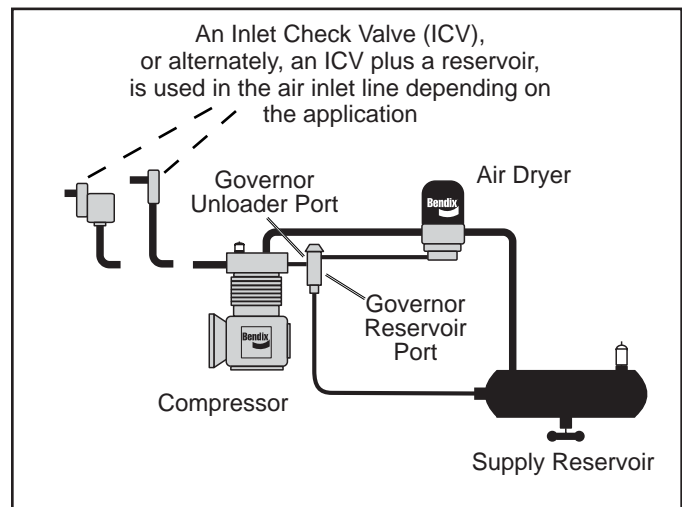

FIGURE 6 - BA-921® COMPRESSOR UNLOADER SYSTEM
2. Make certain the unloader system lines are connected as illustrated in Figure 6.